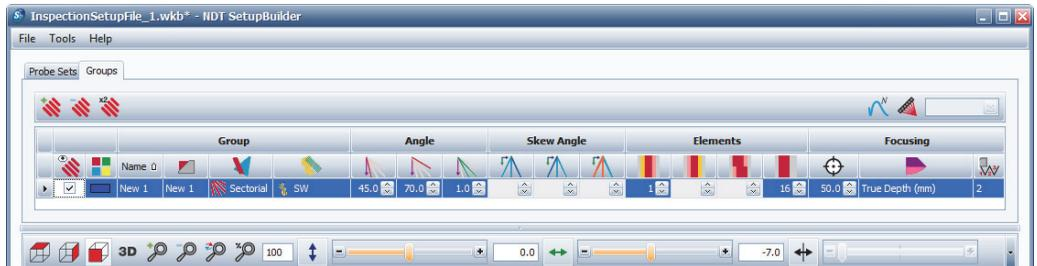

Figure 10-7 Setting the beam-formation visibility on the Groups tab
1. In the list under the **Groups** tab, select the group for which you want to set the beam-formation visibility (see Figure 10-7 on page 143).